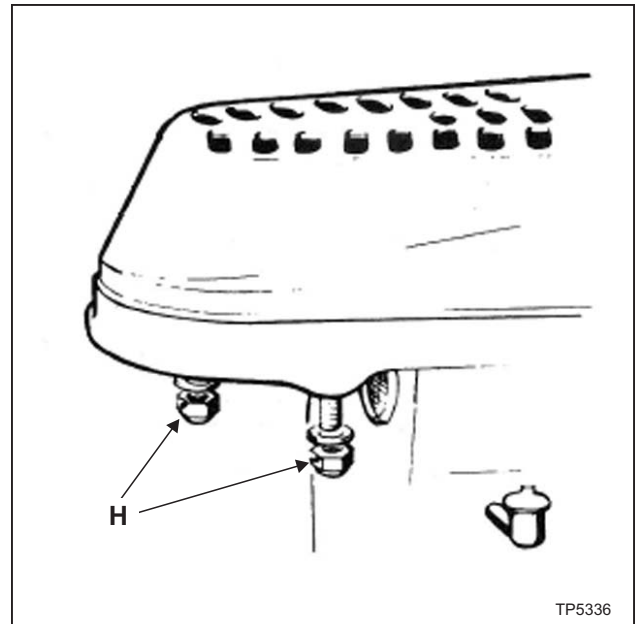

Figure 3.17 - E-Head Motor Removal
1. Loosen the two hex nuts "H", Figure 3.17, on either side of belt housing.